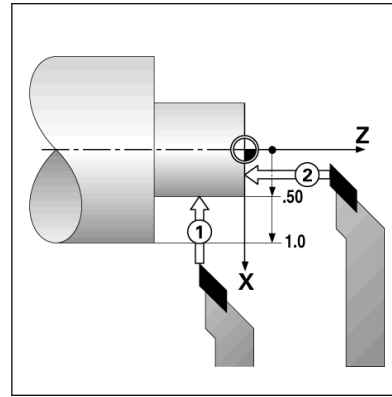

Fig. I.30 Setting a workpiece datum
**Example: Setting a workpiece datum.** See Fig. I.30.